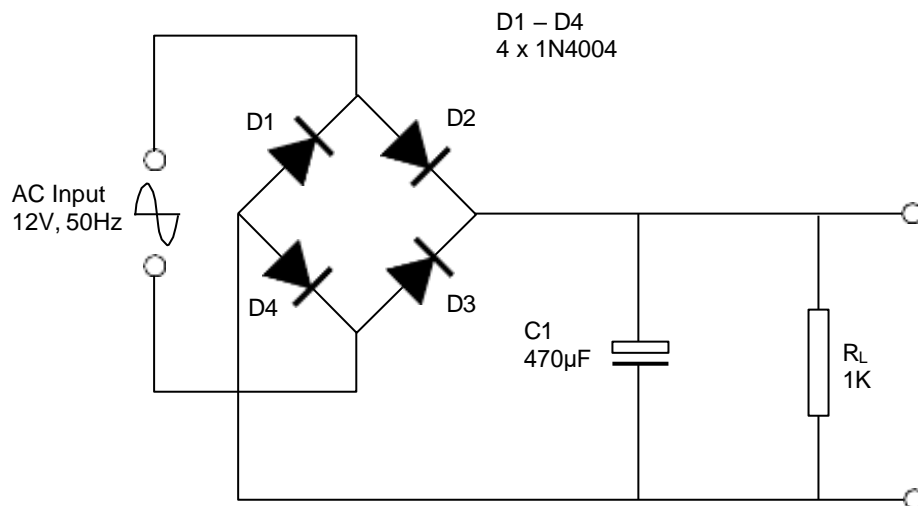

Figure 13.
2. For the circuit in Figure 13:
b) Calculate the ripple voltage for the circuit of Figure 13.